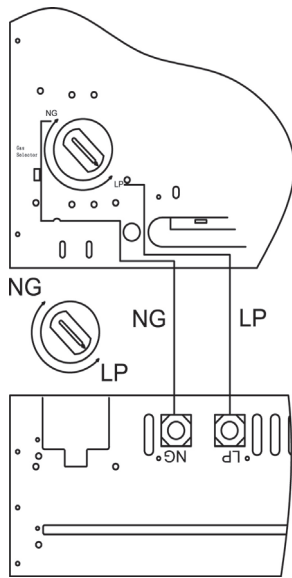

Figure 15
1. Remove top screw from cover plate, See Figure 15, and rotate to expose fuel selection device.